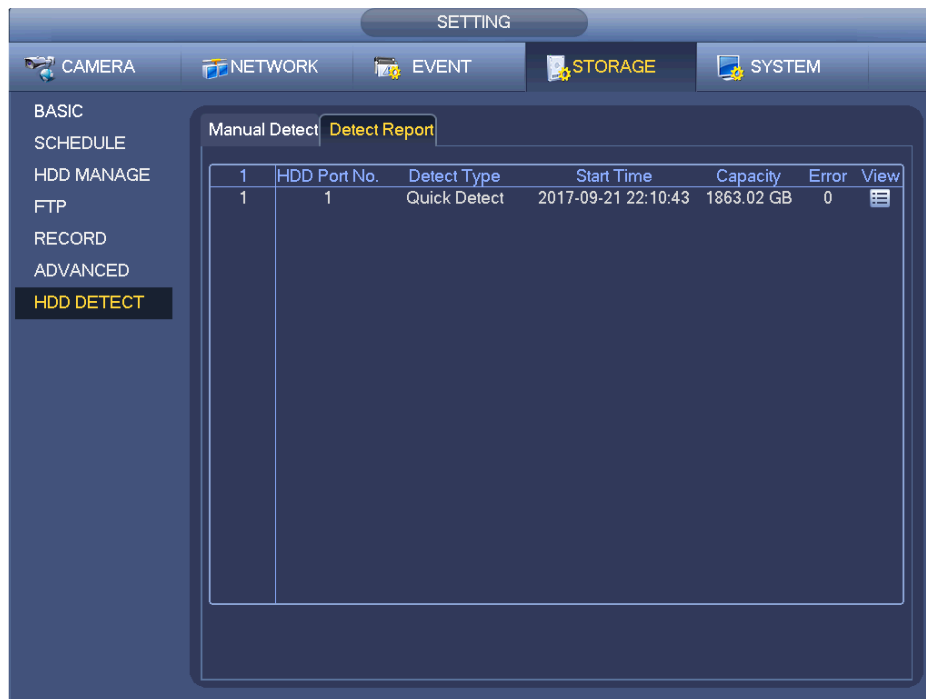

Figure 4-210
Step 1 From main menu>Setting>Storage>FTP, enter FTP interface. See Figure 4-210.